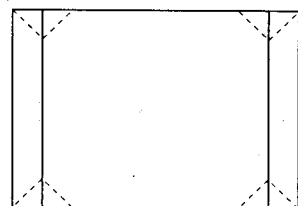

Fig. 8
- Adjust the E-W CORNER to obtain condition as in (fig. 8).